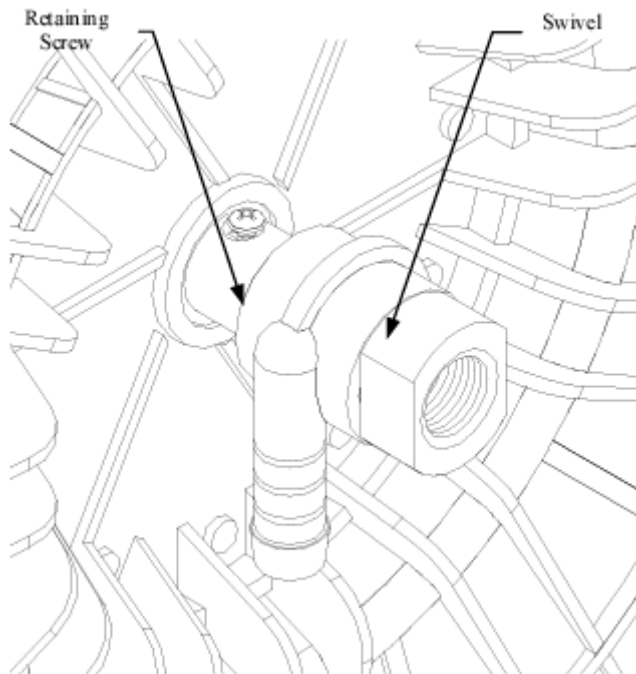

Figure 3
3. Remove the four cover screws from the mounting bracket at the rear of the case. (Ref.: Fig. 3)
16. Pull hose end through mouthpiece of the case. Attach hose stop and fitting (Fig. 3).